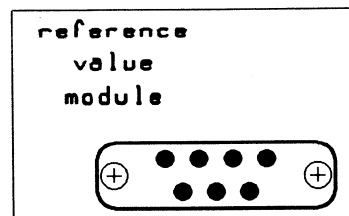

Figure 5-32. The pad array.
Now the module looks like figure 5-32.
3. Move the placeholder to the position shown in figure 5-32 and select **Place**.